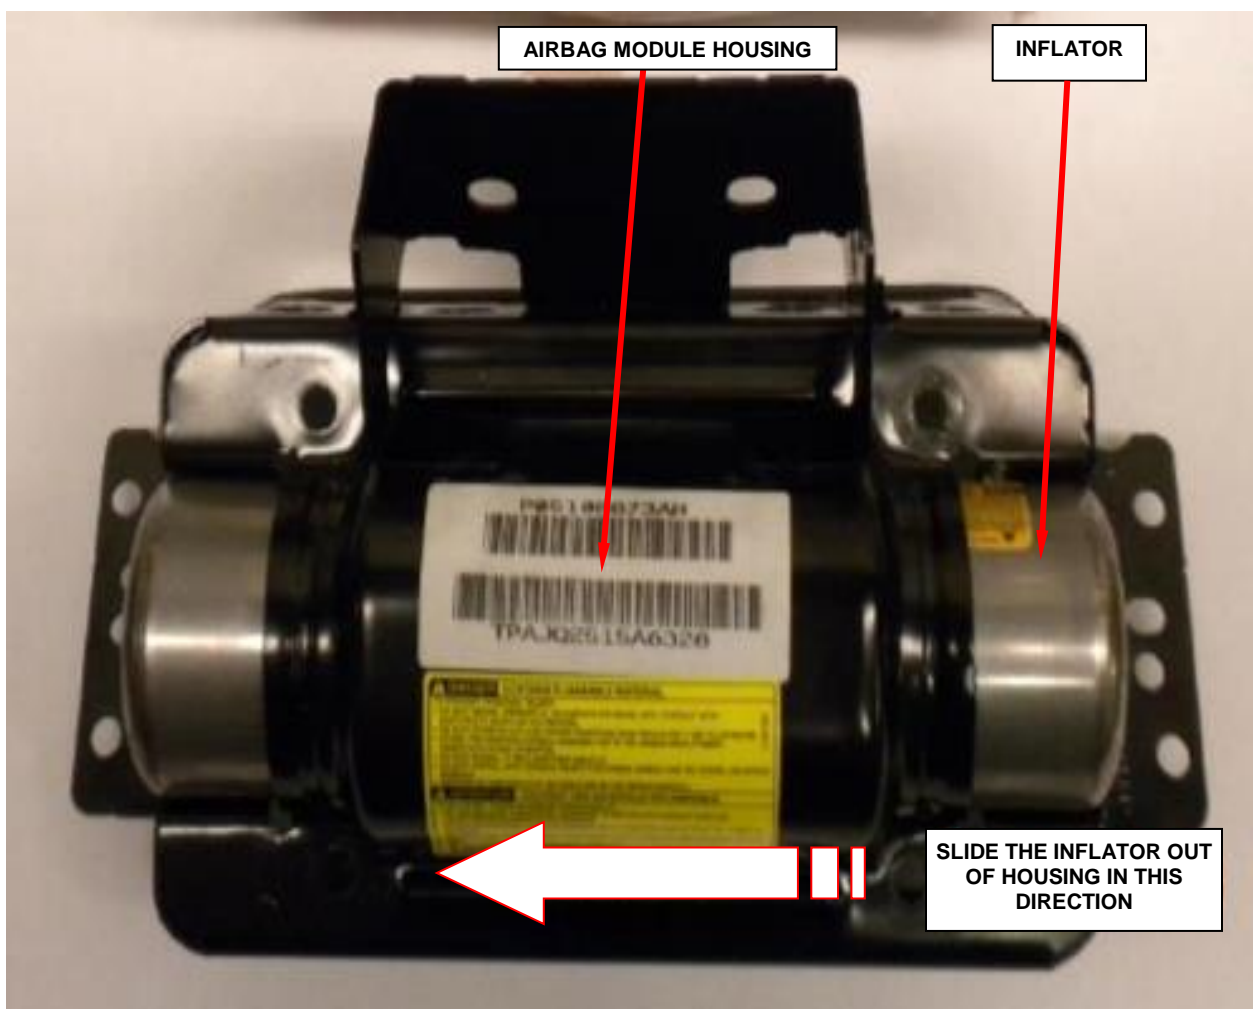

Figure 41 – Remove Airbag Inflator
- k. Slide the inflator out of the passenger airbag module housing (Figure 41).